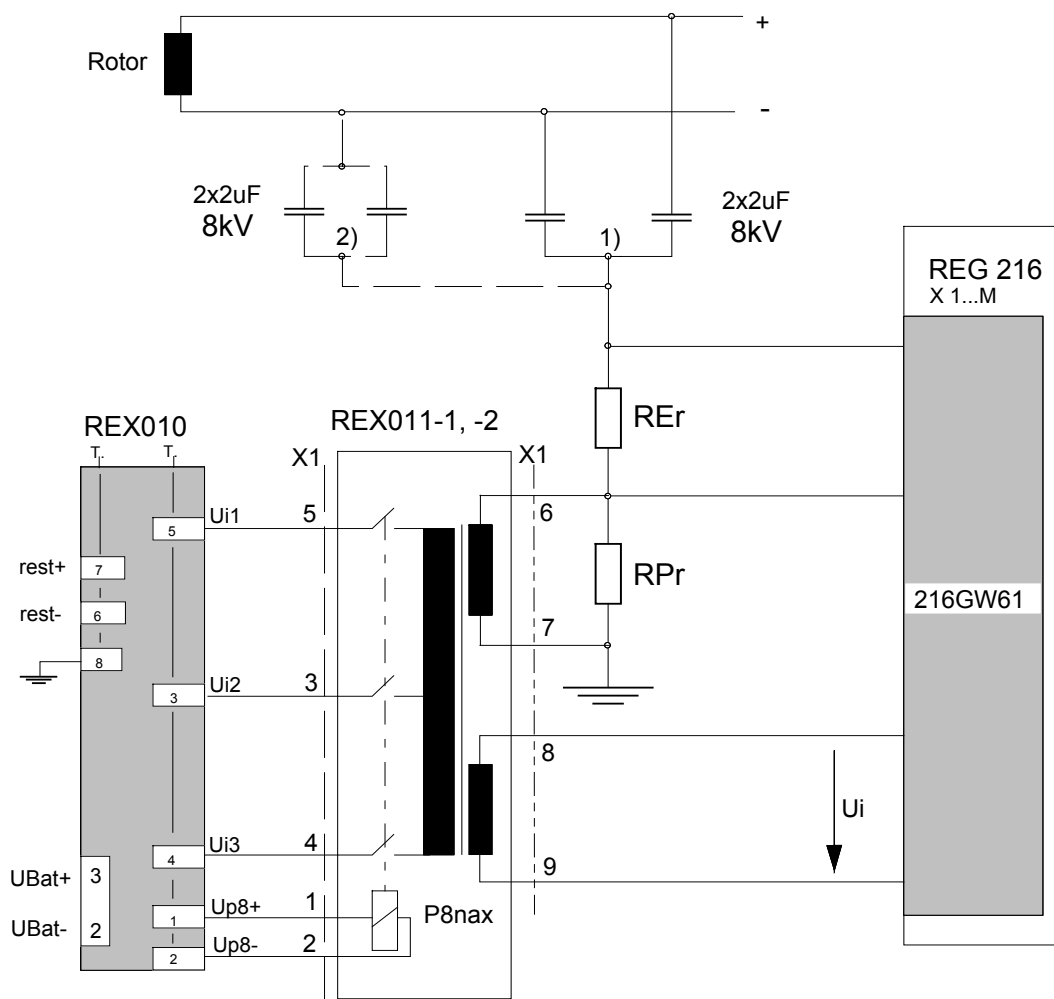

Fig. 2.26 Wiring diagram for REX 011-1, -2 for rotor ground fault protection (see also Fig. 2.29)
- Fig. 2.26 Wiring diagram for REX 011-1, -2 for rotor ground fault protection